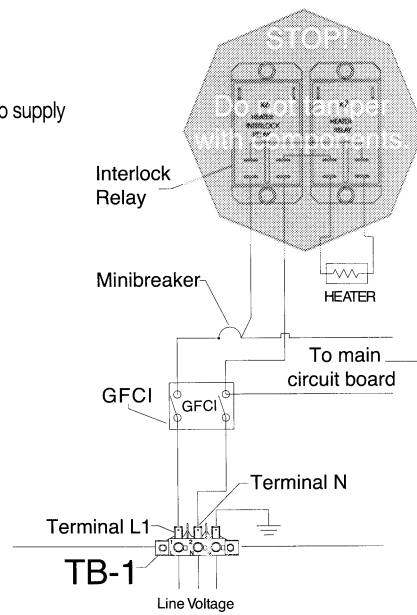

Figure 2
4. Refer to Figure 2. Locate the 15 amp minibreaker. Follow each wire (black) from the load side of the minibreaker to determine which one is connected to the heater interlock relay.
8. Refer to Figure 2. Locate the GFCI (inside the control panel). Follow each wire (white) from the load side of the GFCI to determine which one is connected to the heater interlock relay.